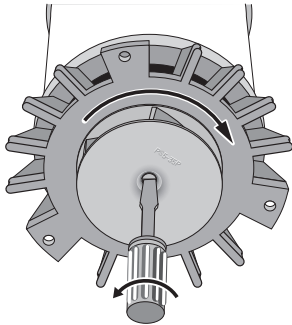

Figure 9
4. Hold the motor shaft with a screwdriver and unscrew the impeller as shown (Figure 9). The impeller has a left-hand thread, so it loosens to the right (↔).